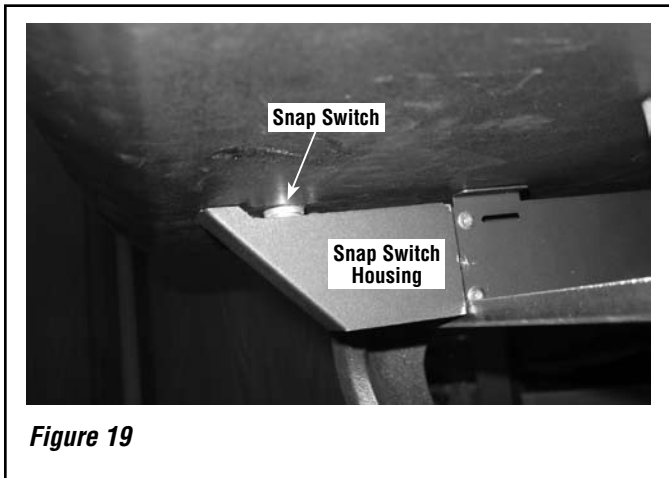

**Figure 17**
**Step 3.** Locate the tabs on the back of the control box. Slide the tabs onto the upper edge of the left side of the heatshield. See *Figures 17 and 18.*